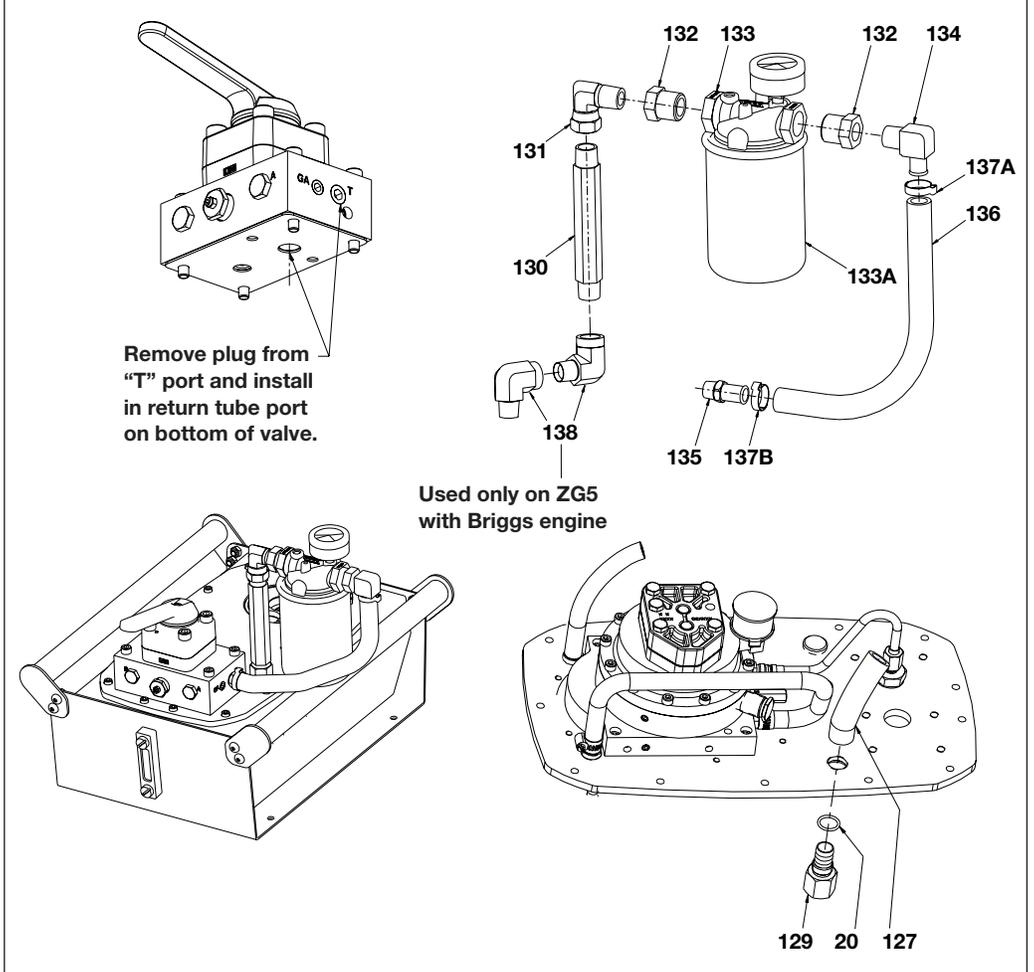

Figure 1 - ZPF High Flow Filter Kit
**Repair Parts List for Figure 1**
**Note:** Parts shown above are included in the ZPF Standard Filter Kit. Effective March 1, 2007, this kit will be replaced by the ZPF High Flow Filter Kit shown in Figure 1.
Assemble the ZPF High Flow Filter Kit as described in the following steps. Refer to Figure 1 for part descriptions and locations.